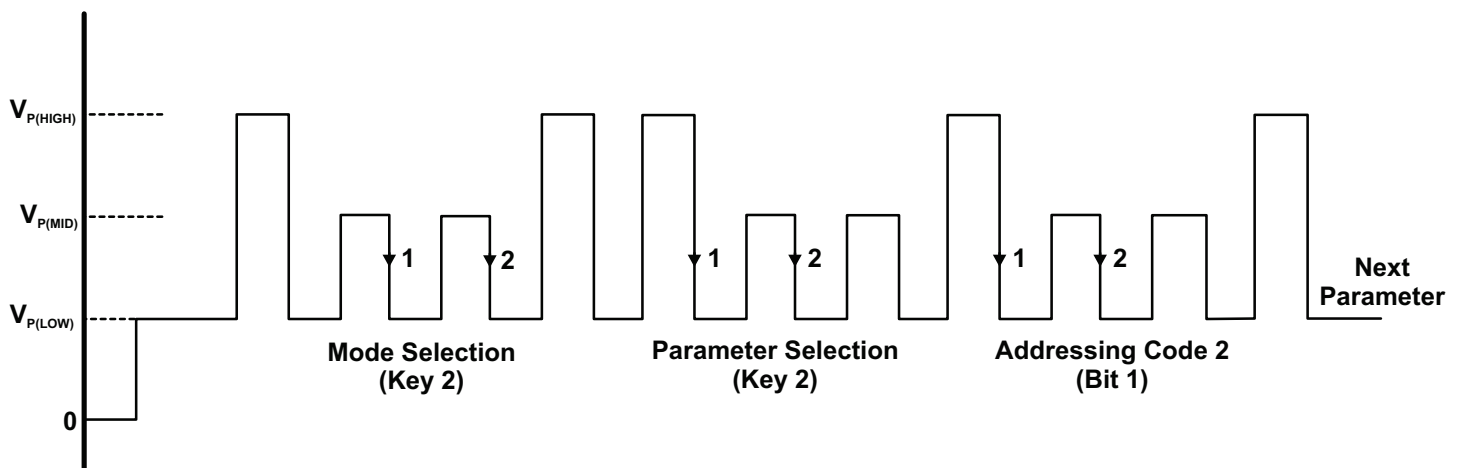

Figure 11: Example of Try Mode Programming Pulses Applied to the VOUT Pin.
After powering the  $V_{CC}$  supply, select mode key 1, the desired parameter register, and address its bit field. When addressing the bit field, each  $V_{PM}$  pulse increments the value of the parameter register up to the maximum possible code (see Programming Logic section). The addressed parameter value will be stored in the device even after the programming drive voltage is removed from the VOUT pin, allowing its value to be measured. To test an additional programmable parameter in conjunction with the original, enter an additional  $V_{PH}$  pulse on the VOUT pin to re-enter the parameter selection field. Select a different parameter register, and address its bit field without any supply interruptions. Both parameter values will be stored and can be measured after removing the programming drive voltage. Multiple programming combinations can be tested to achieve optimal application accuracy. See Figure 11 for an example of the Try mode pulse train.